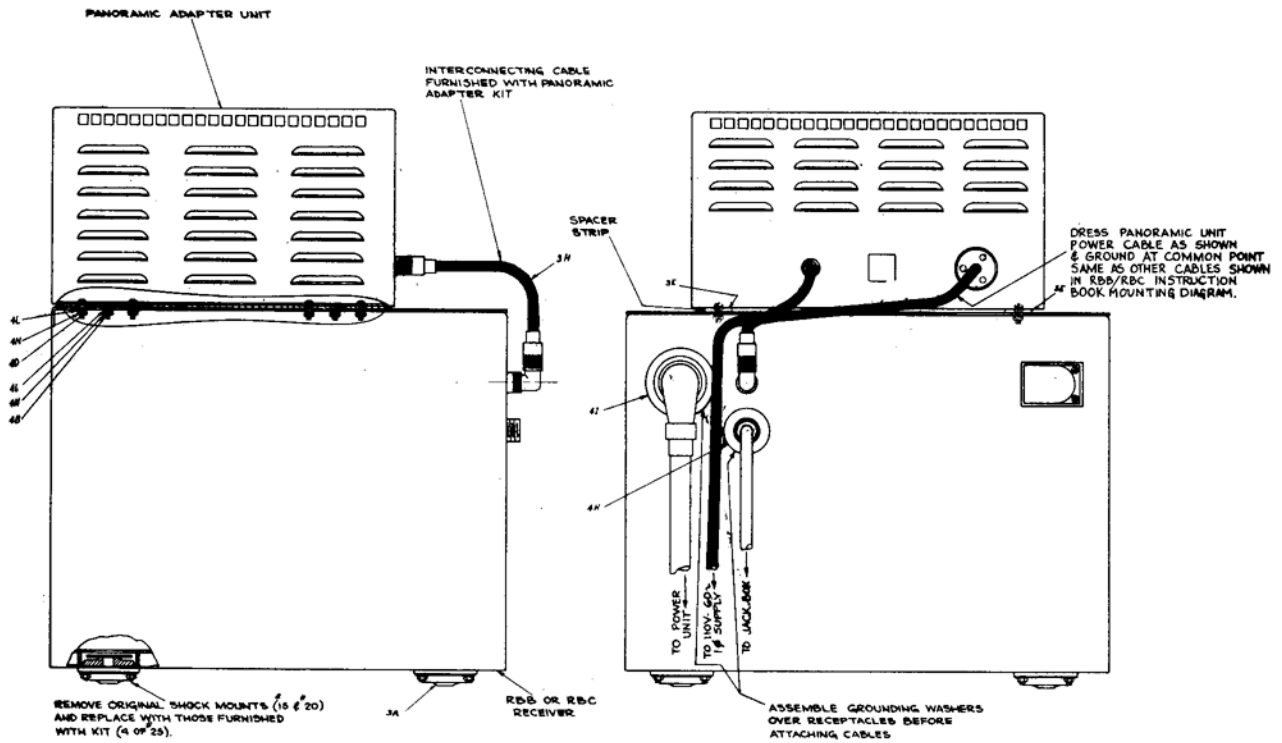
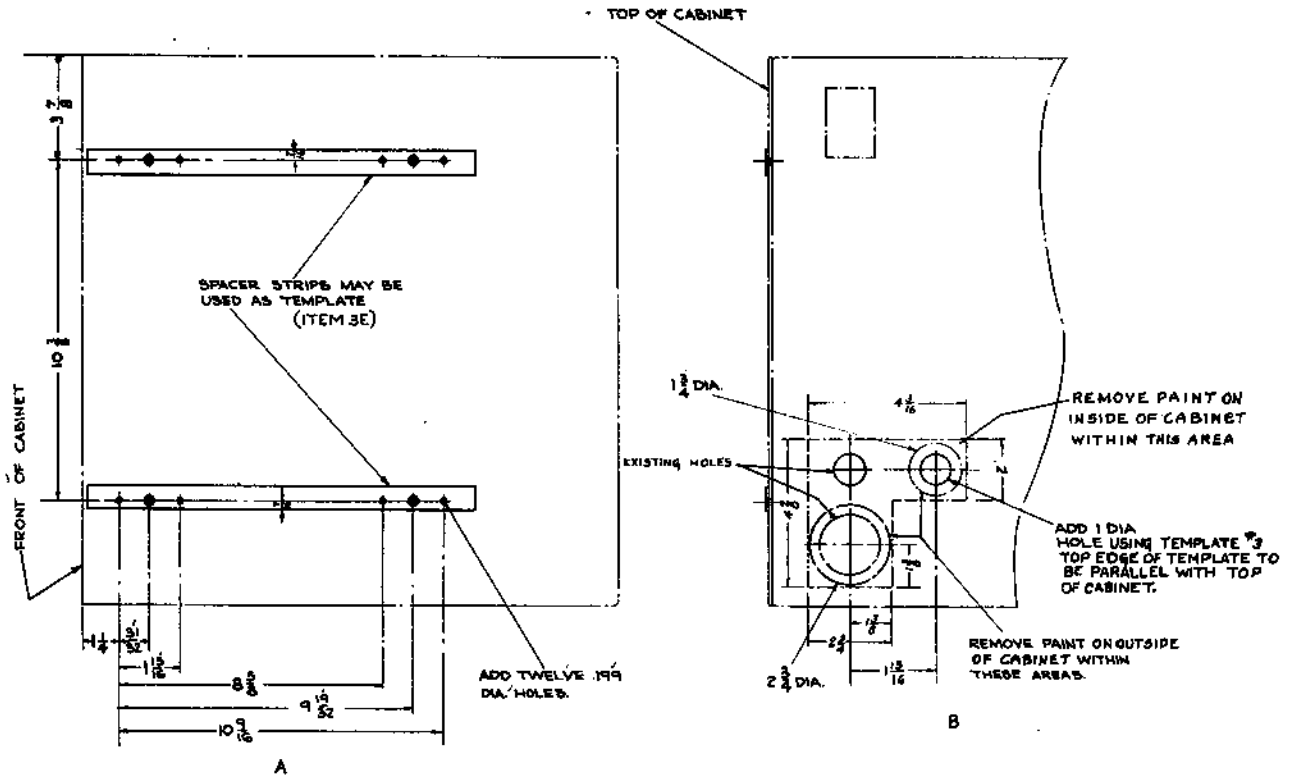
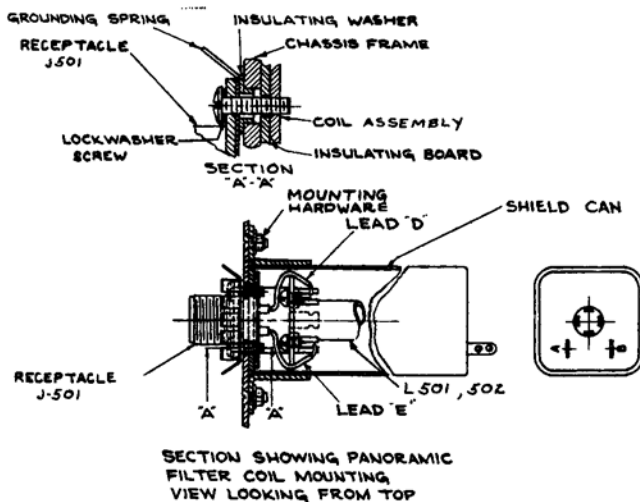
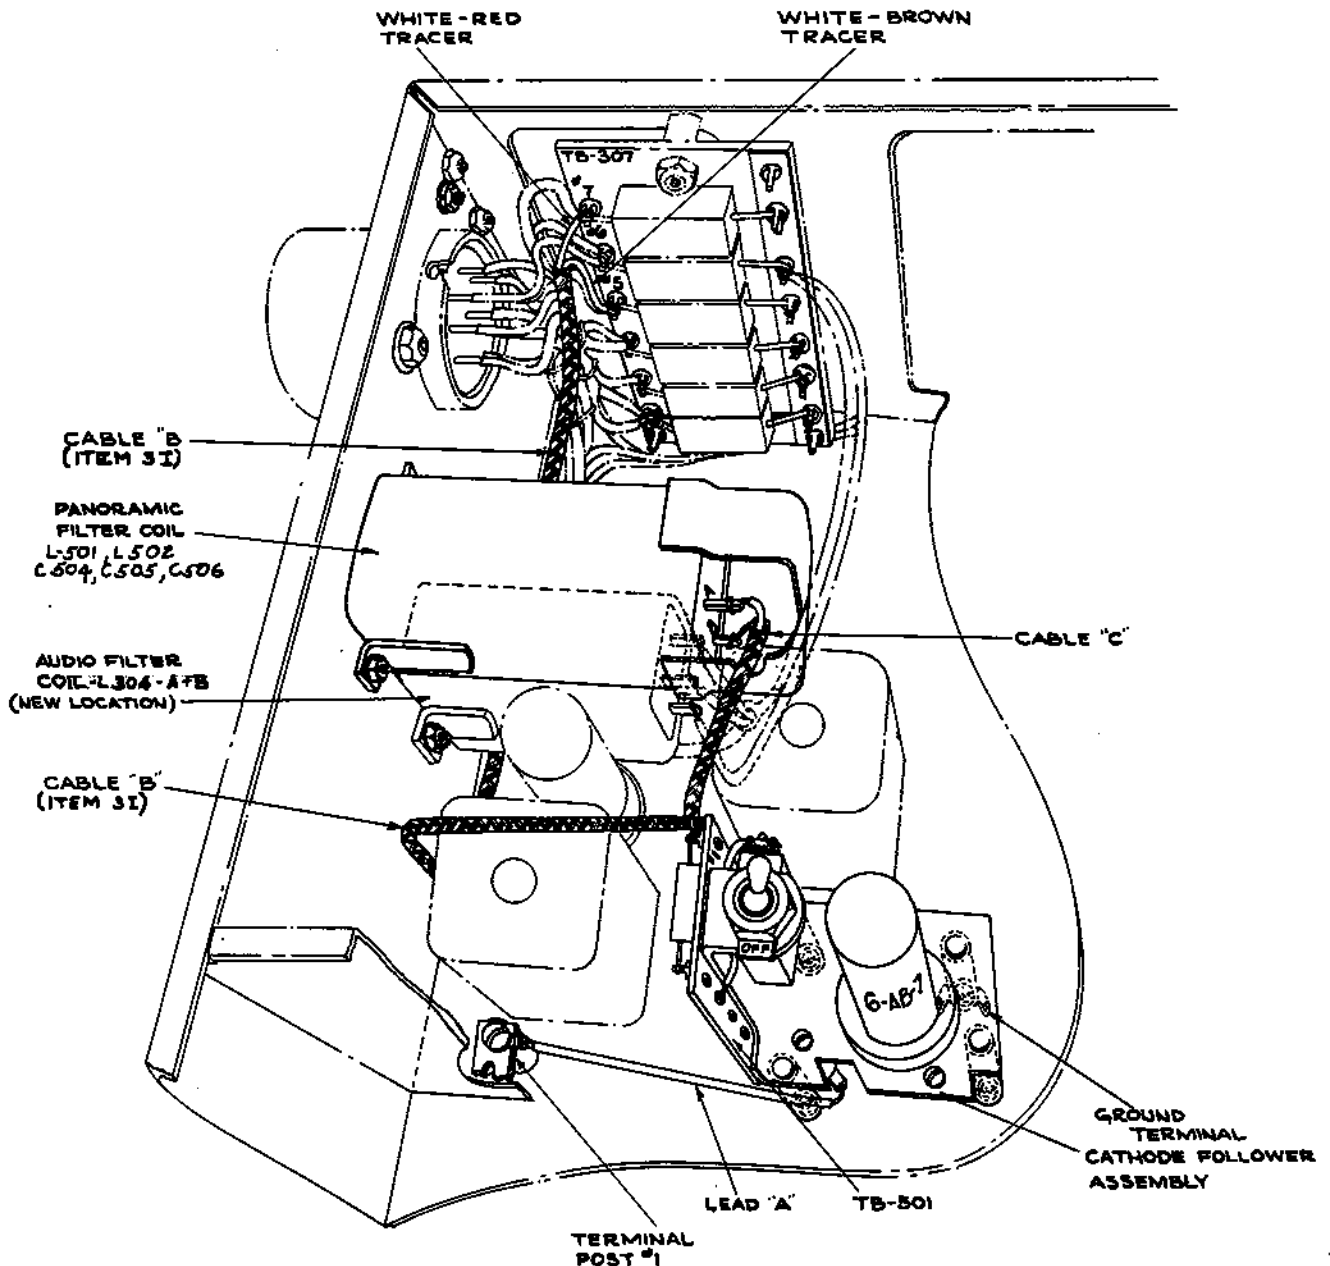

Figure 1-4—Panoramic Adaptor Unit and RBB/RBC Radio Receiver (Assembly Diagram T-621279)
Figure 2-3—Panoramic Coupling Kit, Type CLP-10335, Cabinet Drilling (Diagram P-722276)
Figure 2-4—Panoramic Coupling Kit,
Figure 2-5—Installation of Panoramic Coupling Components (P-722277-C)
tem by connecting the shield of J501 to the RBB/RBC receiver chassis. The filter output is connected to the Panoramic Adaptor Unit by means of a two-wire cable which is furnished with the kit (see Figure 1-4).
e. Remove the original shock mounts from the cabinet and replace with those furnished with the kit (item 3A). See Figure 1-4.
**4. Cabinet Drilling.** (See Figure 2-3.)
(See Figure 2-4.)
a. Connect leads "D" and "E" (item 40) on receptacle J501 (item 3F) as shown in Figure 2-4. Assemble the four insulating washers (item 4F), grounding spring (item 3G), receptacle
(item 3F), insulating board (item 3D), coil assembly (item 2), four lockwashers (item 4J), and four screws (item 4E) as shown in Figure 2-4. Add spaghetti (item 4P) over leads "D" and "E" and connect to terminals of coil assembly.
b. Place the shield can (item 3B) over the above assembly.
c. Fasten the shield can assembly (item 3B) to the chassis frame using two screws (item 4A), two lockwashers (item 4K), and two nuts (item 4M).
d. Place the shield can cover (item 3C) in position. NOTE: The cable "C" (see Figure 2-5) should be fed through the side hole.
**7. Cathode Follower Assembly Mounting.** (See Figures 2-5 and 2-8.)
a. Mount the cathode follower assembly in position as shown in Figure 2-5.
b. Fasten this assembly to the chassis by means of the four screws (item 4C) and four lockwashers (item 4K). NOTE: Be sure to put the ground terminal in place as shown in Figure 2-5.
**8. Wiring.** (See Figures 2-5 and 1-5.)
a. Connect lead "A" (part of item 1) to the first detector plate terminal post No. 1 (see RBB/RBC Instruction Book, Connection Diagram).
b. Connect cable "B" (item 3I) to TB307. The white lead with red tracer is connected to terminal No. 7 and the white lead with brown tracer is connected to terminal No. 5.
c. Connect cable "C" (part of item 2) to TB501, terminal No. 1, located on the cathode follower assembly.
a. Mount the two aluminum spacer strips (item 3E) in their proper positions on the receiver cabinet as shown in Figure 2-3. Four lockwashers (item 4L), four flathead screws (item 4B), and four nuts (item 4N) are used for this purpose. See Figure 1-4.
c. Bolt the Panoramic Adaptor Unit cabinet to the RBB/RBC radio receiver by means of the eight round head screws (item 4D). Replace the RBB/RBC and RBU/RBV chassis in their respective cabinets.
d. Connect the Panoramic Adaptor Unit to the RBB/RBC receiver by means of the cable which is supplied for this purpose (item 3H).
e. Connect the equipment to the power supply and insert the washer (item 4I) between the cable coupling nut and the back of the cabinet. See Figure 1-4.
f. Place the washer (item 4H) under the audio
output coupling nut in the same manner as described in paragraph "e." (See Figure 1-4.)
g. Dress the Panoramic Adaptor Unit power cable as shown in Figures 1-4 and 2-6, and ground the metal shield to the rear of the operating table.